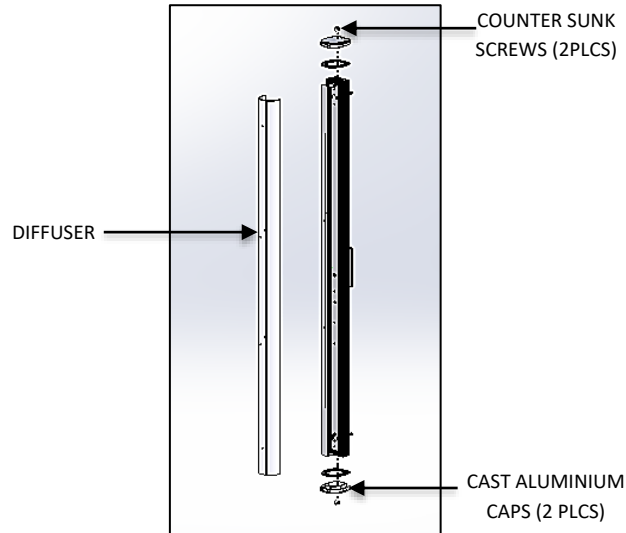

FIG.6 – DIFFUSER DISASSEMBLY
2. Remove the TOP and BOTTOM CAST ALUMINIUM CAPS by unscrewing the COUNTER SUNK SCREWS in the caps. Then, remove the DIFFUSER by sliding it outwards as shown in fig. 6.